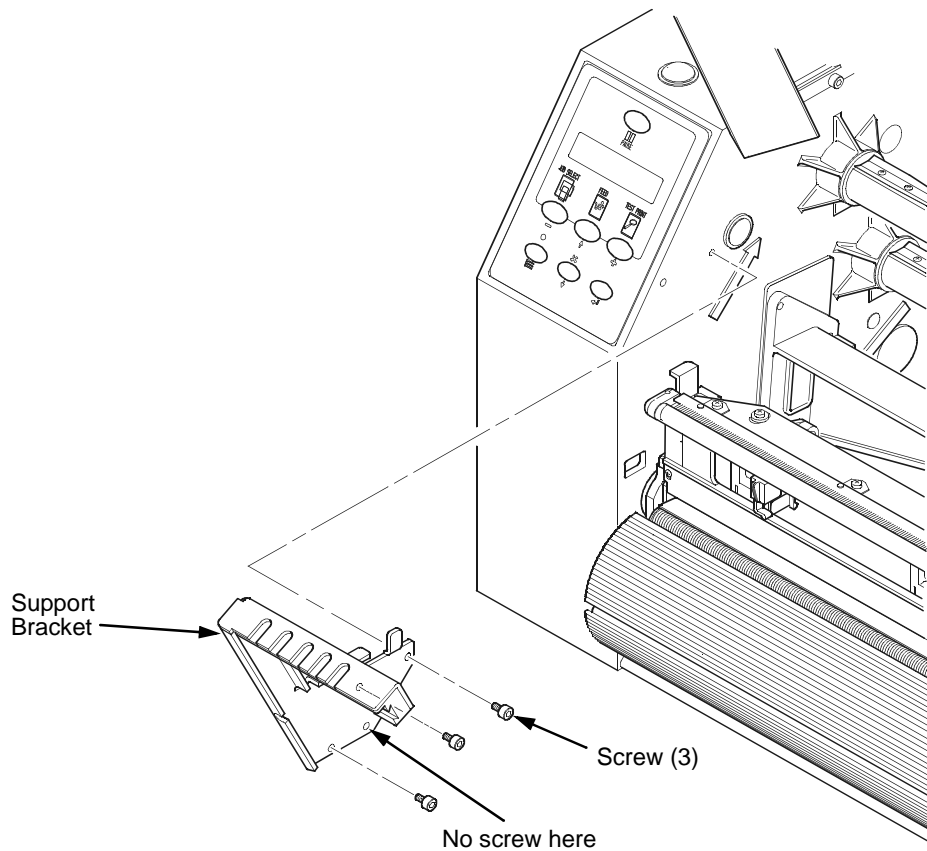
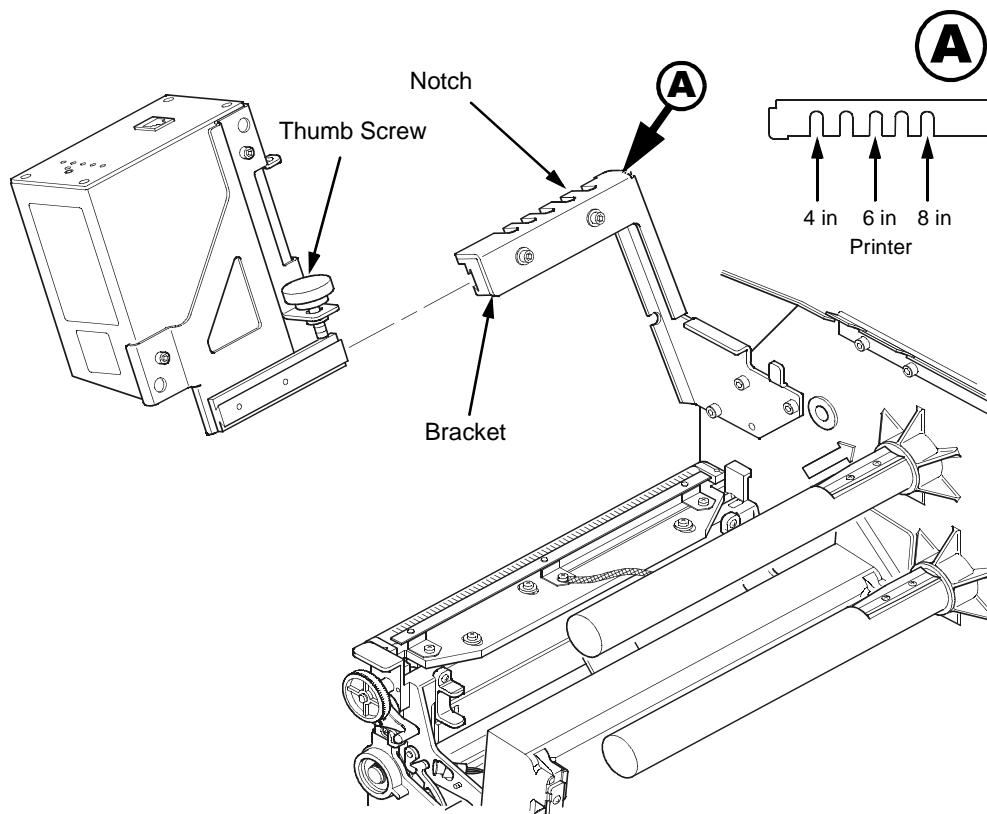

Figure 2. Installing the Support Bracket
Figure 3. Attaching the Validator to the Support Bracket
4. Using the three screws and Allen Key provided, install the support bracket, as shown in Figure 2.
NOTE: Use the three screws to install the support bracket, as shown in Figure 2. (Figure 3 shows the bracket in place.) The screw heads can prevent complete opening of the printhead on some models if the support bracket is not installed as shown.